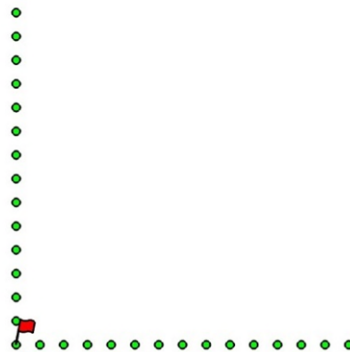

Figure 7-5: Marking the line spacing and starting positions for every line
**Step 3 – Mark the Line Start Positions** – with the tape measure still on the ground, mark the line start positions based on the line spacings (Figure 7-5). Usually flags or paint work for grass, and chalk or paint on concrete. It is also recommended to paint a distance measurement every so often, in case you forget which line you're on.